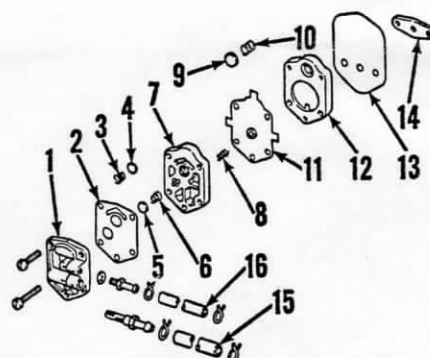

Fig. OM7-9—Exploded view of diaphragm type fuel pump used on some models.
FUEL PUMP. Refer to Fig. OM7-9 for motors equipped with a diaphragm type fuel pump. Pressure and vacuum pulsations in crankcase are directed through a passage to one side of pump diaphragm (11). Vacuum in the crankcase draws the